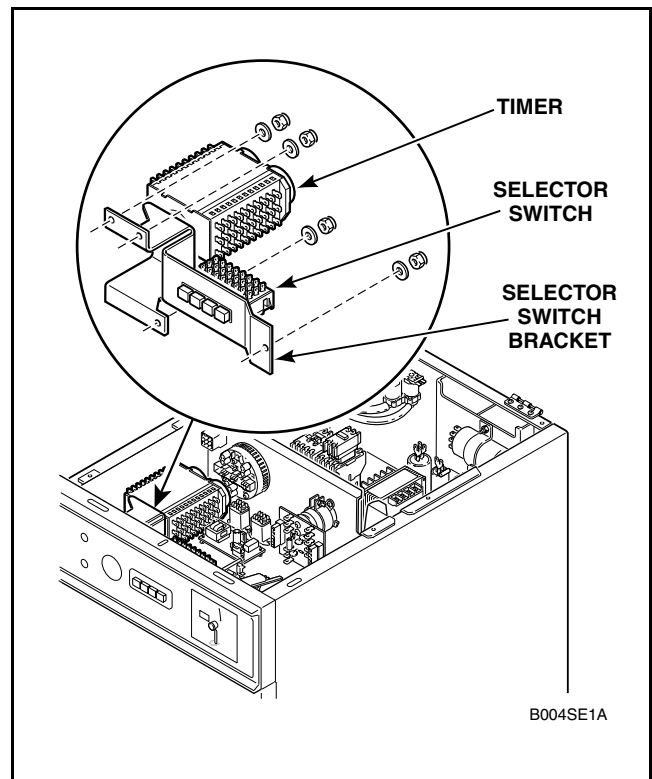

Figure 4
- Remove four nuts holding timer and bracket to front of control panel, refer to *Figure 4*.